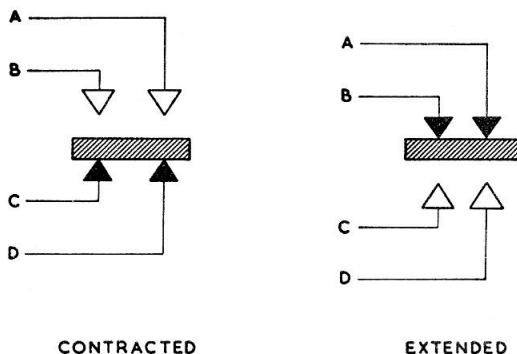

Fig. 3. Contact arrangement
4. Terminal brackets at the trip lever end of the switch carry 10 B.A. terminal screws for contacts C and D, and on the top of the switch are 6 B.A. terminal nuts for contacts A and B. The contact arrangement is shown in fig. 3.